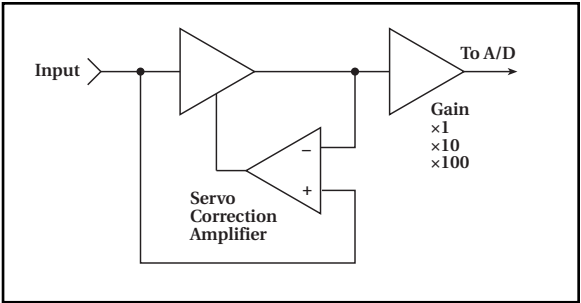

Figure 6.
- A unique "servo" front end design (Figure 6). While conventional DMMs typically measure and correct for the zero drift of front-end circuitry, the Model 2750's servo front end eliminates zero drift, which also eliminates the wasted measurement time usually required to check zero, further increasing measurement speed.